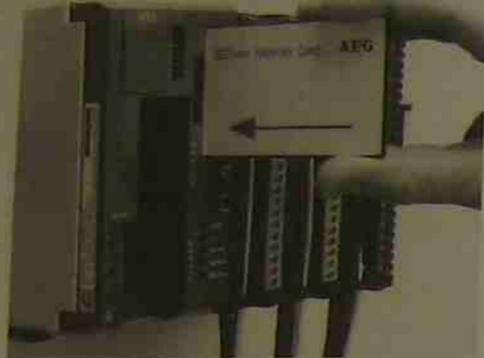

Figure 3-7 EEPROM Memory Card
**Caution:** Special care and handling of the UVPROM, or for that matter any integrated circuit (IC) chip, must be exercised to ensure that the pins do not become dirty, bent, or subjected to any static electric charges.
**EEPROM** Electrically Erasable Programmable Read Only Memory is also referred to as Double EPROM and E2PROM. EEPROM is a chip that can be programmed using a standard programming device and can be erased by the proper signal being applied to the erase pin. EEPROM is used primarily as a nonvolatile backup for the user program RAM. If the user program in RAM is lost or erased, a copy of the program stored on an EEPROM chip can be downloaded into RAM. It is common on some PLCs for the processor to load the program from the E2PROM chip into RAM memory each time the processor is powered up or after a power failure. Figure 3-7 shows an EEPROM memory card used with the Modicon 984-120 Compact PLC to store the user program. This credit-card size device offers a convenient method for copying and/or loading user programs.